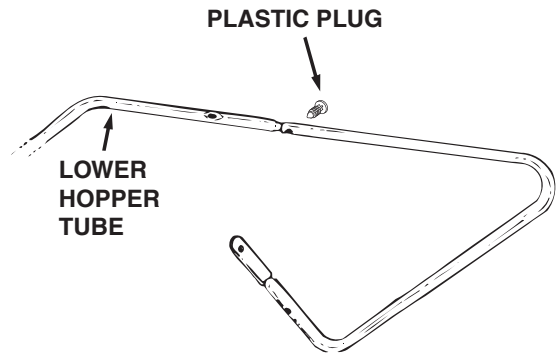

FIGURE 15
4. Assemble the two lower hopper tube together using a plastic plug. See figure 15.